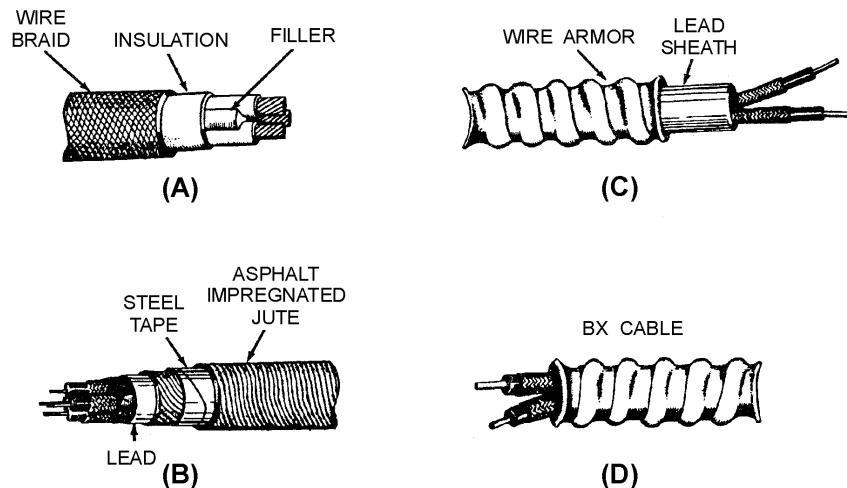

Figure 1-17.—Metallic armor cable.
Figure 1-17 shows three examples of metallic armor cable: wire braid, steel tape, and wire armor.
**WIRE-BRAID ARMOR.**—Wire-braid armor (view A of figure 1-17), also known as basket-weave armor, is used when light and flexible protection is needed. Wire braid is constructed much like fibrous
**STEEL TAPE.**—A second type of metallic armor is steel tape. Steel tape covering (view B of figure 1-17) is wrapped around the cable and then covered with a serving of jute. There are two types of steel tape armor. The first is called interlocking armor. Interlocking armor is applied by wrapping the tape around the cable so that each turn is overlapped by the next and is locked in place. The second type is flat-band armor. Flat-band armor consists of two layers of steel tape. The first layer is wrapped around the cable but is not overlapped. The second layer is then wrapped around the cable covering the area that was not covered by the first layer.
**WIRE ARMOR.**—Wire armor is a layer of wound metal wire wrapped around the cable. Wire armor is usually made of galvanized steel and can be used over a lead sheath (see view C of figure 1-17). It can be used with the sheath as a buried cable where moisture is a concern, or without the sheath (view D of figure 1-17) when used in buildings.